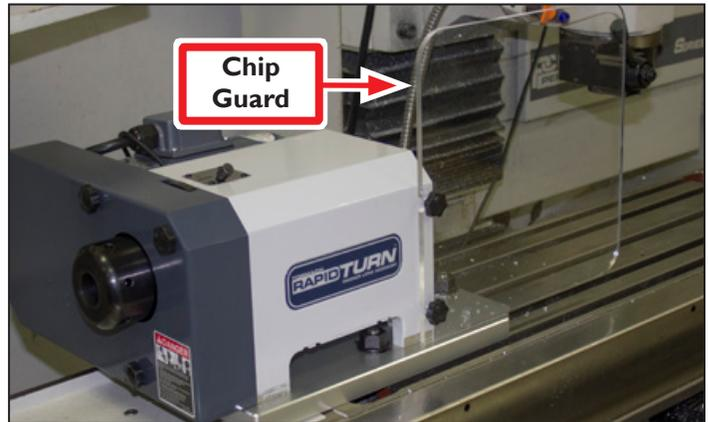

Figure 3.3
1. Power on mill following Power Off/ On Procedure detailed in chapter 2, *Operation*; ensure Chip Guard is installed (see **Figure 3.3**).